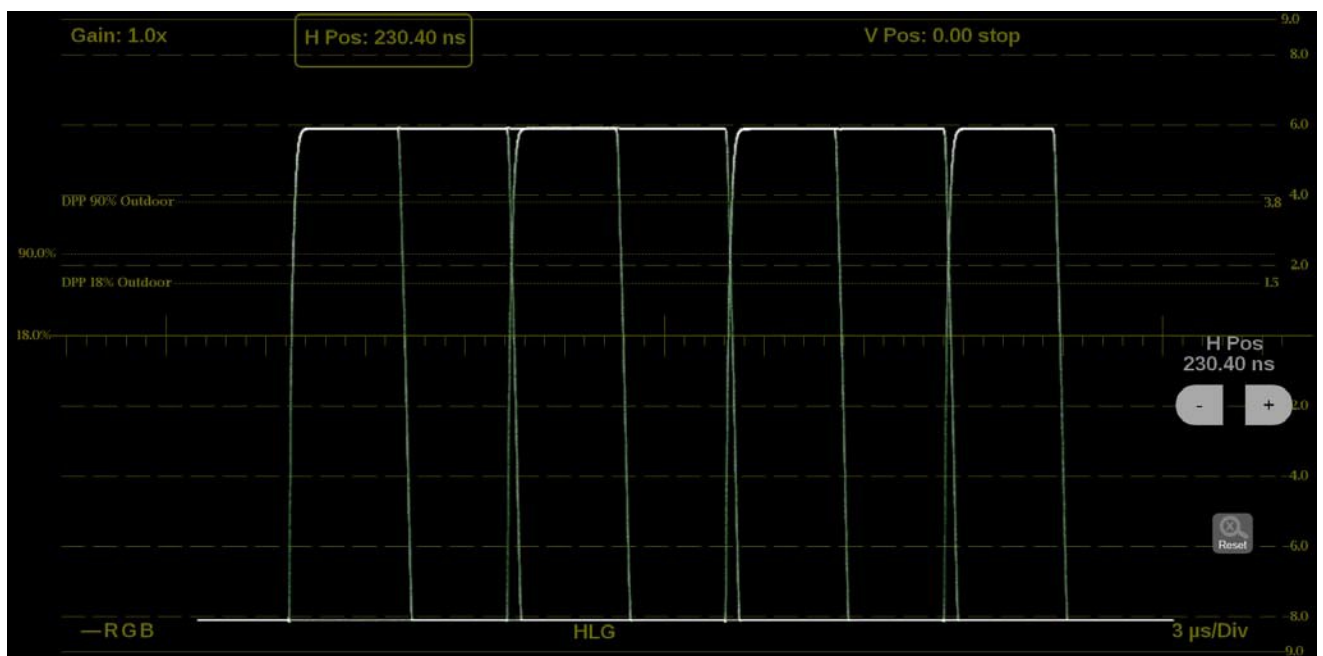

Figure 197: Stop Display on-screen tools – horizontal position
1. Select the **H Pos** button to allow adjustment of the horizontal trace. (See Figure 197.)